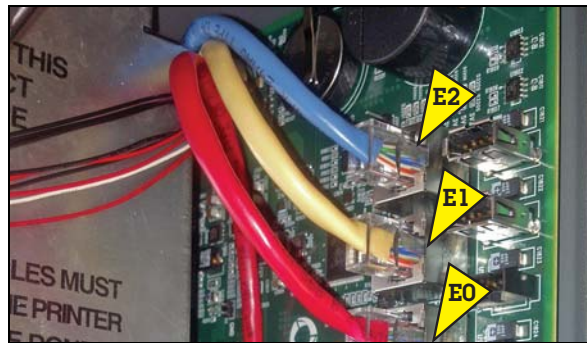

Figure 9. Remove Ethernet Module Cables From CPU Board
8. Remove the three Ethernet Module cables ENET2 (blue), ENET1 (yellow) and ENET0 (red) from the CPU board (see Figure 9).
20. Reconnect the three Ethernet Module cables ENET2 (blue), ENET1 (yellow) and ENET0 (red) from the CPU board (ref. Figure 9).
5. Reconnect the three Ethernet Module cables ENET2 (blue), ENET1 (yellow) and ENET0 (red) from the CPU board (ref. Figure 9).